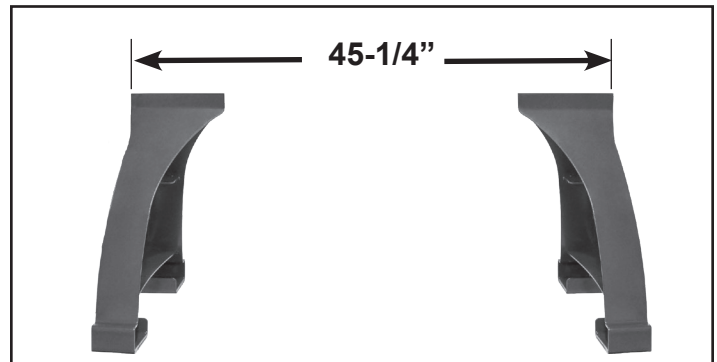

FIG. 4
1. Position the two Legs (H, #F1) approximately 45-1/4" apart measuring from the outside edges. Be sure that the shelf brackets on the legs are facing inward, towards each other. Figure 4.